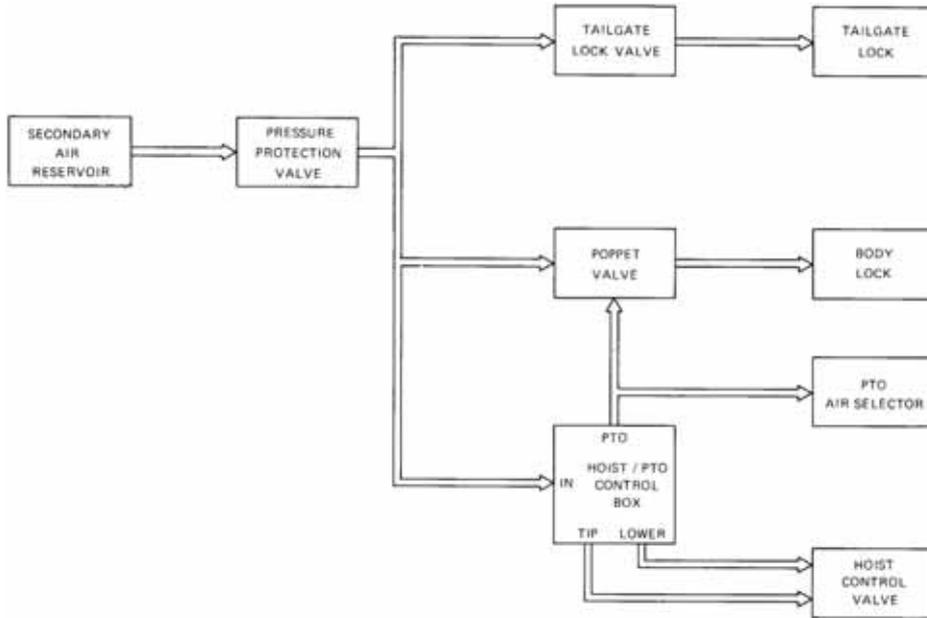

Figure 11 Air Circuit – Dump Body Lock and Hoist
19. Figure 11 illustrates the dump body lock and hoist air circuit in a simplified form. Air is supplied by the secondary air reservoir through the pressure protection valve to the following circuits: